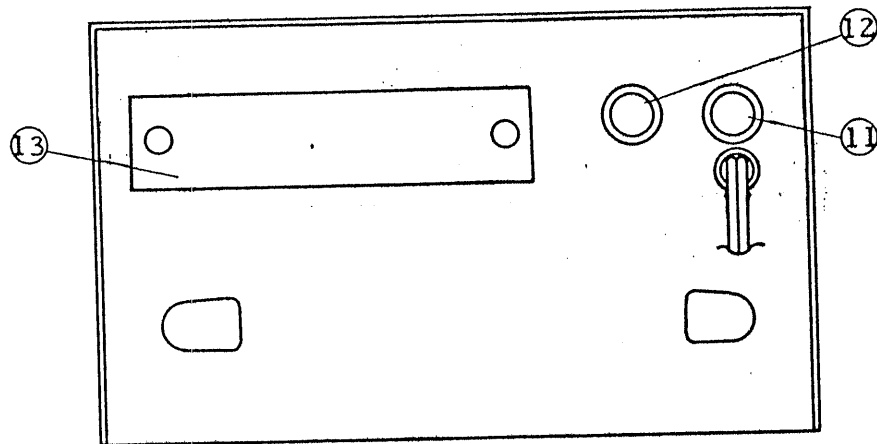

Fig. 2 Rear Panel
- 3.2 Explanation of rear panel (See Fig. 2.)
- (11) Input fuse Inserted in the primary of the power transformer to avoid possible subsequent faults during a Model PAC110-1 trouble. Time lag type 4A.
- (12) Output fuse Inserted on the output side to prevent surge current during a Model PAC110-1 trouble from flowing through the equipment connected, and from causing resultant damage. 1 A Fuse
- (13) Rear terminal plate Output terminals, sampling terminals, remote control terminals and one-control parallel operation terminals are provided on it.